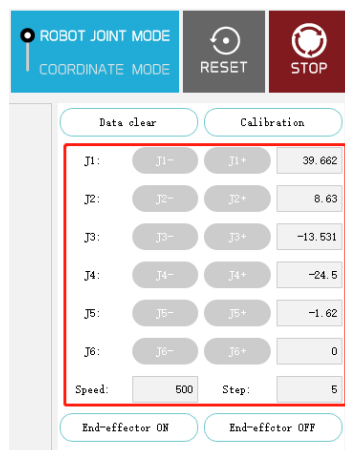

Figure 2.21 Mirobot Studio joint controls
(3) Click the single-axis motion control button on the right side of the Mirobot Studio to control the six joints of the manipulator to move separately. The speed can be adjusted at speed, and the step can be adjusted at step. As shown in Figure 2.21.